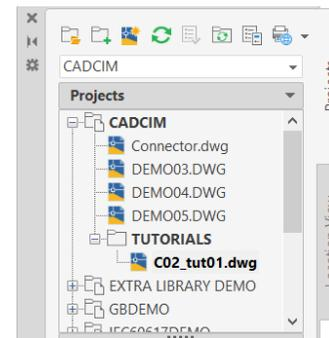

Figure 2-70 The *C02_tut01.dwg* moved to the *TUTORIALS* subfolder
3. Drag and drop the *C02_tut01.dwg* drawing created in Tutorial 1 on the *TUTORIALS* subfolder; the *C02_tut01.dwg* drawing is moved to the *TUTORIALS* subfolder, refer to Figure 2-70.